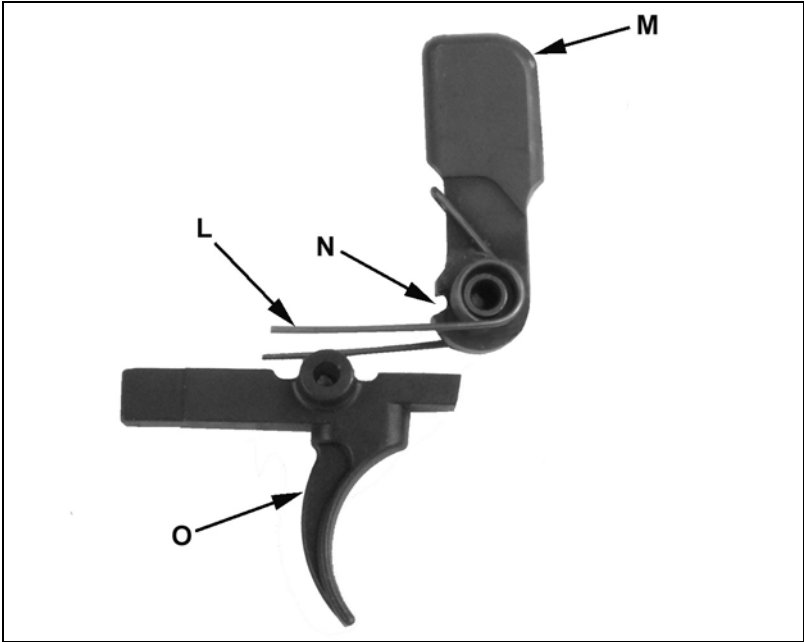

Figure 4
5. When installing the Safety Harbor supplied hammer, install with the large radius (M) facing forward and sear notch (N) toward trigger (O). See figure 4.